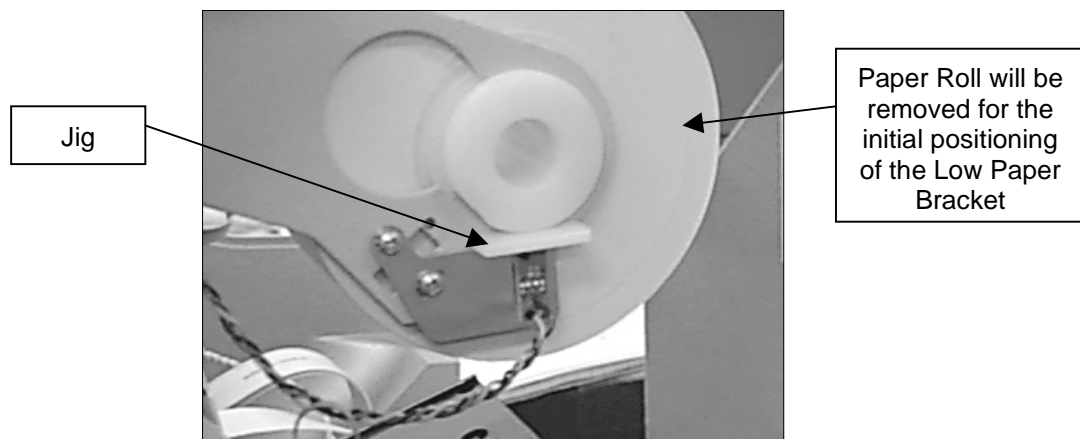

Figure 8
10. Position the paper sensor bracket by placing the plastic jig between the paper spindle and the edge of the bracket (see fig. 8). (The farther from the Paper Spindle the bracket is positioned, the more paper is left on the roll when the unit registers low paper.)